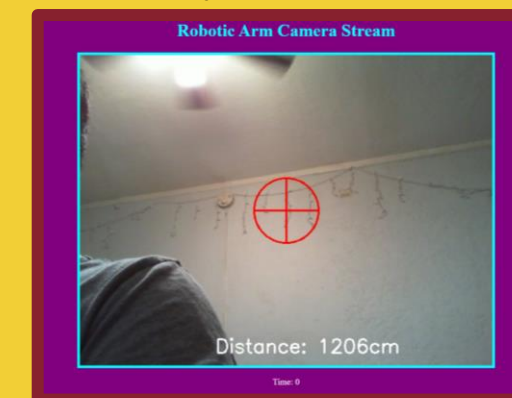

Figure 2. Augmented Interface (Website)
2. Design the augmented interface using (Fig. 2) [SOURCE]: